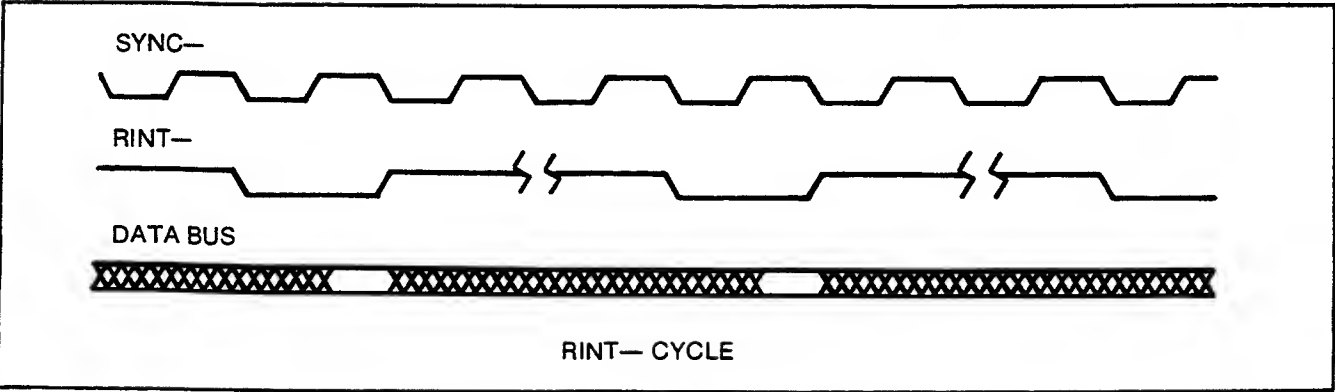

Figure 2-10. AGGIE Bus Interrupt Timing
- Figure 2-10 shows timing for interrupts.